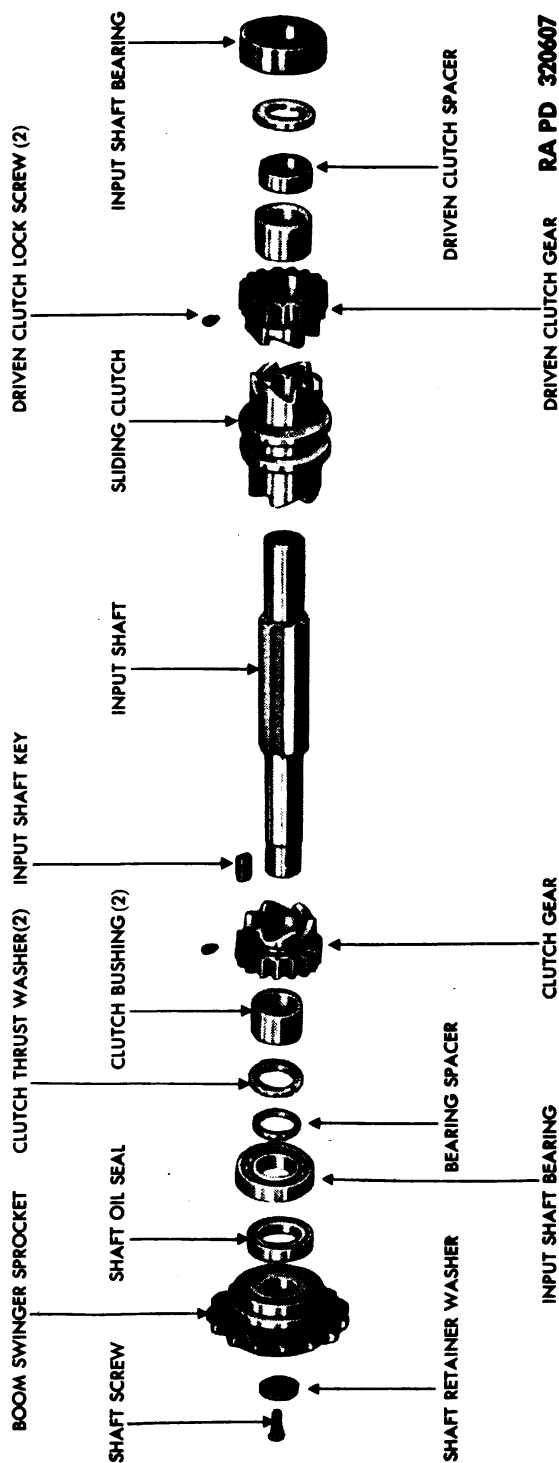

Figure 46 — Boom Swinger Input Shaft — Disassembled
g. Remove Input Shaft. Remove the $\frac{3}{8}$ -inch sprocket retaining cap screw and retaining washer, and drive sprocket off the input shaft (fig. 46). Remove five $\frac{7}{16}$ -inch cap screws and lock washers attaching gear case sprocket end cover to the case. Lift the cover free of input shaft and case. Remove five $\frac{7}{16}$ -inch cap screws and lock washers from gear case cover, remove $\frac{3}{4}$ -inch end cover blanking stud nut and lock washer, and lift off the end cover (fig. 63). Remove the set screw lock wires from the driven clutch gear hubs, and remove two set screws (fig. 46). Pull the input shaft toward the sprocket end; using a soft punch, drive the input shaft bearings off the shaft and out of the gear case. Move the input shaft assembly toward the front of the gear case until the rear of the shaft can be tilted out of the gear case through the shift cover opening, and lift the input shaft assembly free of the gear case (fig. 63).
h. Disassemble Input Shaft. Slide off the clutch spacer, thrust washer, and rear clutch gear assembly. Remove the thrust washer from the front end of the input shaft, and slide off the clutch gear. Tap the clutch gear bushings out of the clutch gears, remove bearing spacer, and slide the input shaft out of the sliding clutch (fig. 46).
b. **Assemble Input Shaft.** Slide the sliding clutch onto the input shaft spline, and install the bearing collars with the lubricating groove toward the clutch gear (fig. 46). Tap the bushing assemblies into the clutch gears, and slide the clutch gear onto the input shaft. Install the set screw in the clutch gear opposite the drive end, and install the lock wire. The slot in the set screw should be in alignment with the circumferential groove machined in the hub of the clutch gear. Do not install the set screw in the drive end clutch gear. Install thrust washers with grooves toward clutch gear on both ends of the shaft, and install the space washer on the forward gear end.
f. Remove Input Shaft. Remove the $\frac{3}{8}$ -inch sprocket retaining cap screw and retaining washer, and drive the sprocket off the input shaft. Remove five $\frac{7}{16}$ -inch cap screws and lock washers attaching the gear case sprocket end cover to case. Lift the cover free of the input shaft and case. Remove the set screw lock wires from the driven clutch gear hubs, and remove two set screws. Pull input shaft toward the sprocket end, and using a soft punch, drive input shaft bearings off the shaft and out of the gear case (fig. 46). Move input shaft assembly toward the front of the gear case until the rear of the shaft can be tilted out of the gear case through the shift cover opening, and lift input shaft assembly free of the gear case (fig. 63).
clutch gear bushings out of clutch gears, remove clutching gear spacer, and slide the input shaft out of the sliding clutch (fig. 46).